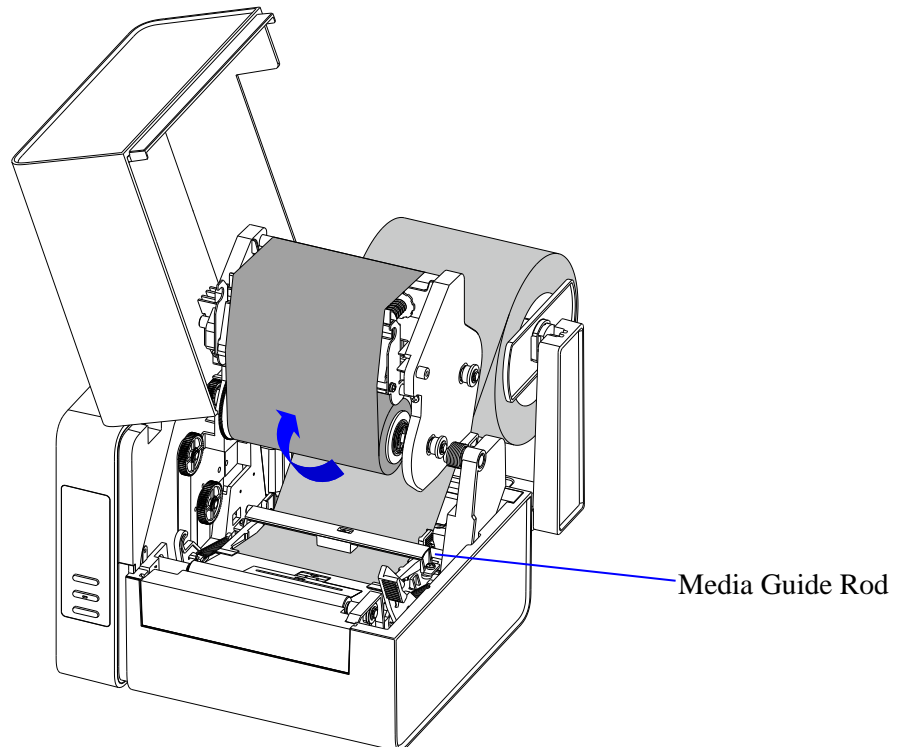

Figure 2-16 Thread the Media
5. Thread the media under the Media Guide Rod and Transmissive Media Sensor, as shown in Figure 2-16.